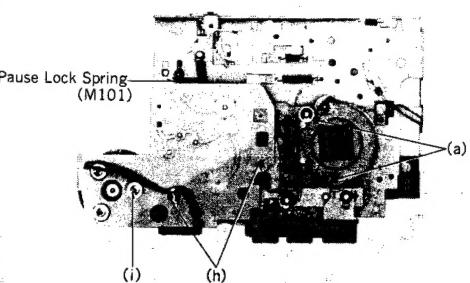

Fig. 7
1. Remove the pause lock spring (M101) (shown in fig. 7).
3. The removal of screw (i) for mounting the motor allows the flywheel belt (M93) to come off (shown in fig. 7).